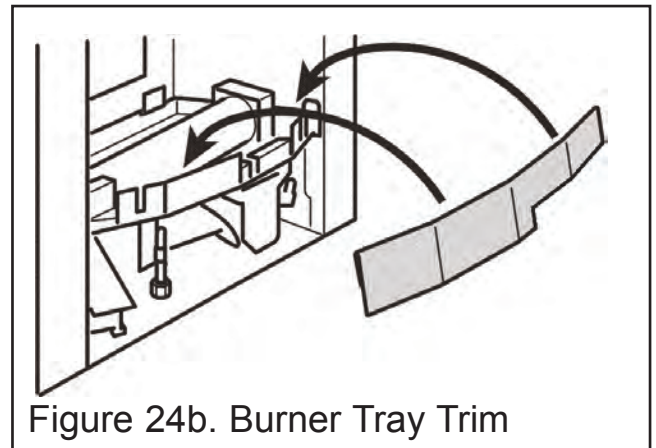

Figure 24b. Burner Tray Trim
1. Fit the burner tray trim over the front rim of the burner tray. Push the trim fully down (See figure 24b).